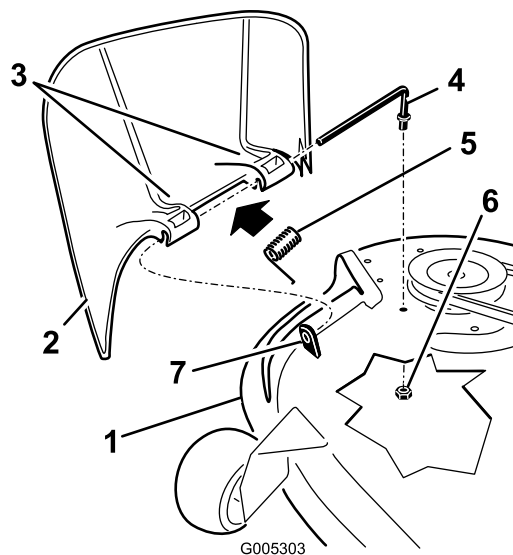

Figure 59
1. Locate items shown in Figure 59.
2. Remove the nut (3/8 inch) from the rod under the mower (Figure 59).
3. Slide the rod out of the short stand-off, spring, and grass deflector (Figure 59). Remove the damaged or worn grass deflector.
4. Replace the grass deflector (Figure 59).
6. Place the spring on the rod, with end wires down, and between the grass deflector brackets. Slide rod through second grass deflector bracket (Figure 59).
7. Insert rod at front of grass deflector into short stand-off on deck. Secure rear end of rod into the mower with a nut (3/8 inch) (Figure 59).